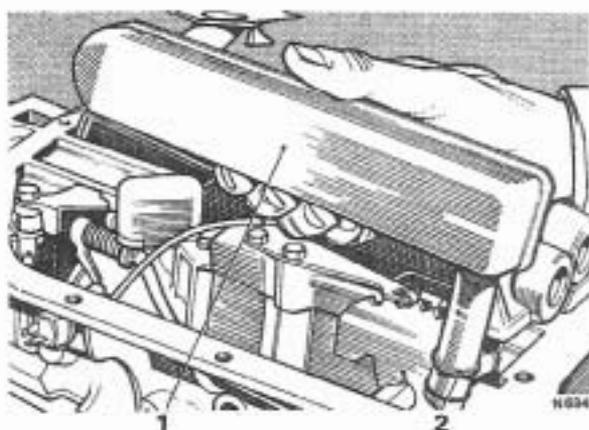

FIG. T185 REMOVING THE STRAINER AND INTAKE PIPE ASSEMBLY (EARLY CARS)
9. Lift out the strainer and intake pipe assembly (see Fig. T185).